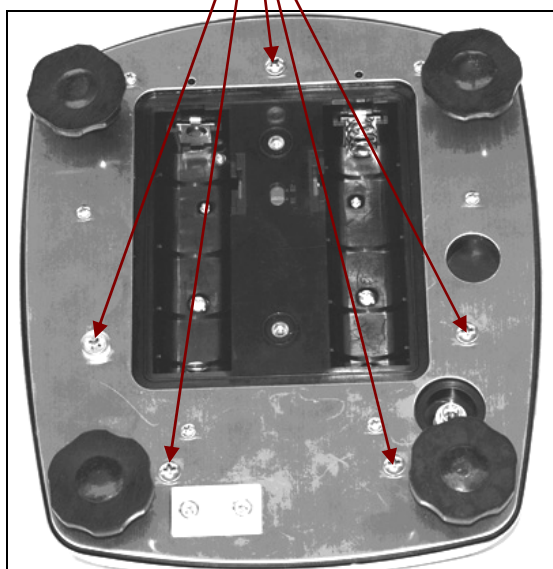

Figure 3-2. Scale Bottom, Valor 3000XW.
3. Remove the screws holding the Housing in place. (See Figure 3-2.) The screw on the left side may have a tamper-evident seal, used in Legal For Trade application. (See Section 1.8 for more details.)
6. Turn the scale over and replace the seal washers in the holes of the screws that hold the Top Housing in place. (See Figure 3-2.)